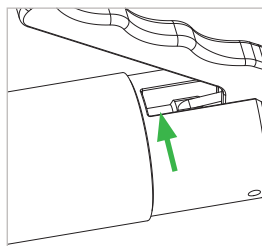

Figure 15
- ▶ Apply a short burst of spray with the aiming tube to the actuator peg (Pos. 3) (*Figure 15*).